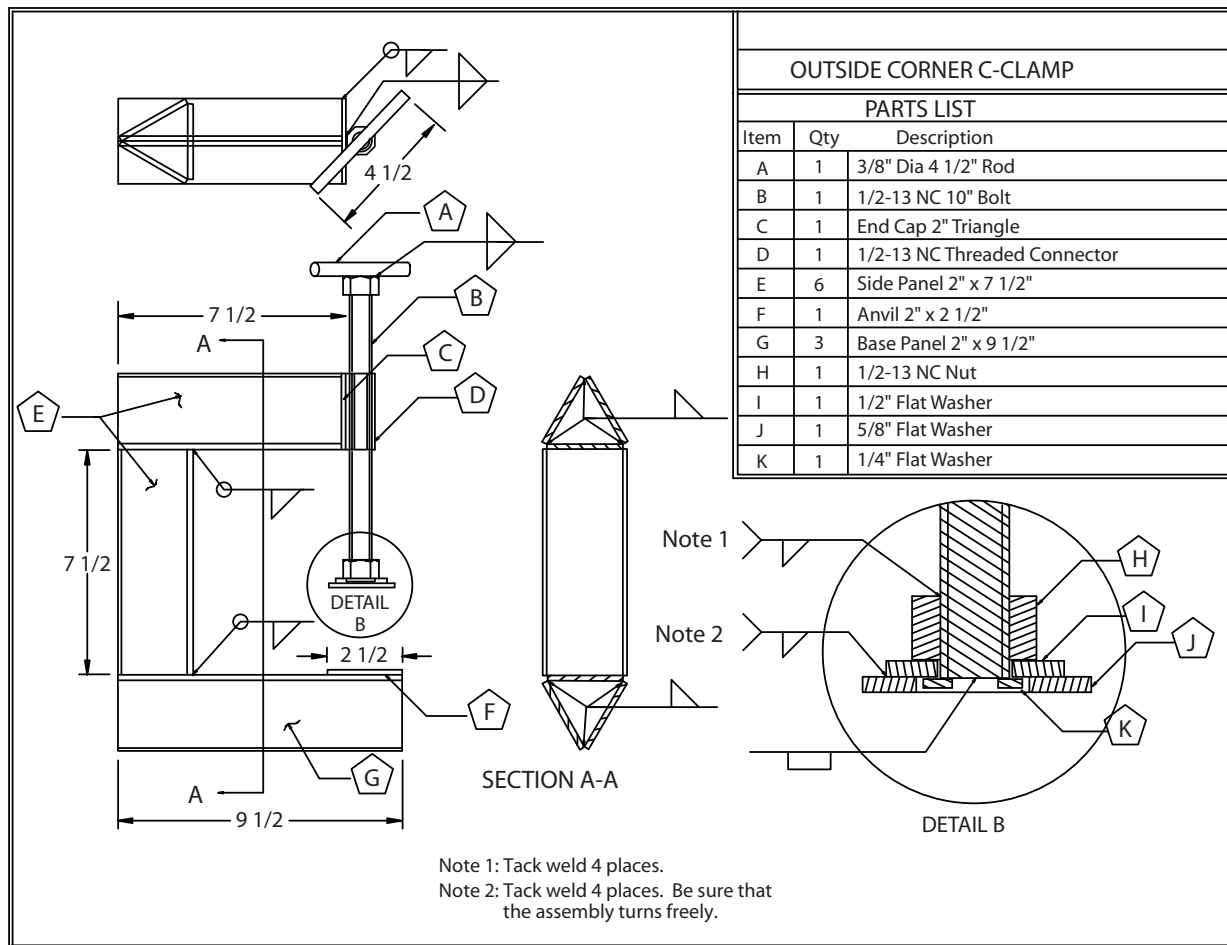

FIGURE 12-32 Project 12-3. © Cengage Learning 2012
Using a square, 12-in. rule, measuring tape, and soapstone, lay out the plate as shown in the project drawing, Figure 12-32.
- Make four small fillet welds as shown on the number 1 welding symbol in Detail A, Figure 12-32. Cool and clean the welds.
- Screw the 3/4-10NC nut just far enough onto the bolt so that the assembled washers will fit as shown in Detail A, Figure 12-32.
shown on the number 2 welding symbol in Detail A, Figure 12-32.